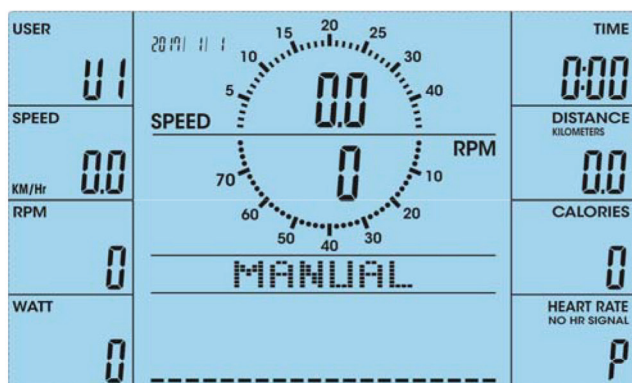

Fig. 16
1. Choose the MANUAL mode and confirm with ENTER (fig. 16.).